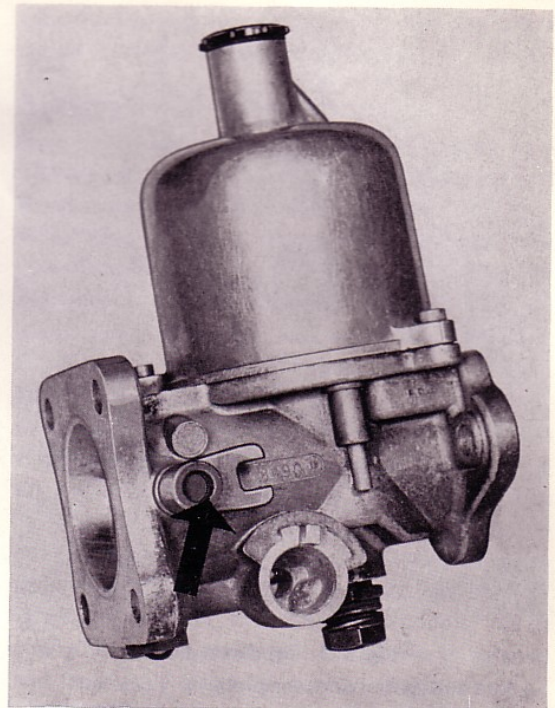

Fig. 111 Location of flange yoke
7. Fit the flange yoke as shown in Fig. 111 (with the throttle fully closed and the throttle stop screw out). Make sure that there is a clearance of 1.5 mm (0.06") between the flange yoke and the throttle housing. With the flange in position (see Fig. 111) and a 3.0 mm (approx. 1/8")